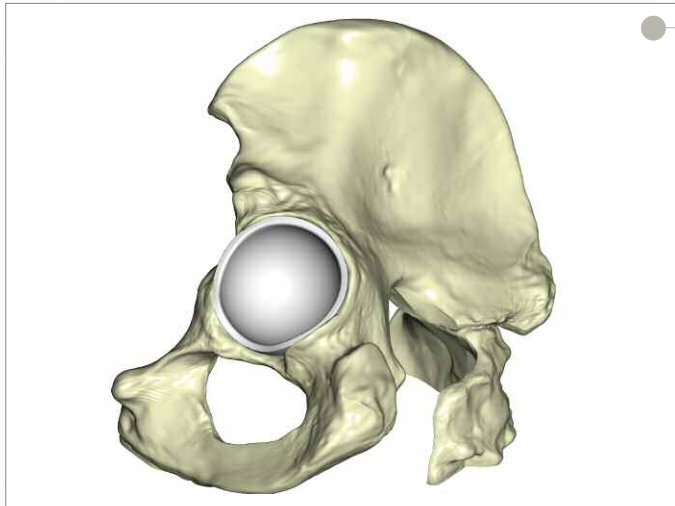

Figure 11
► **Cup Placement:** Locate the reference mark made previously on the acetabulum. Position the cup according to the preset reference mark. Positioning the cup according to the preset reference mark will ensure proper anatomic cup placement. Impact the cup into the acetabulum (Figure 11). Once the cup is securely impacted, remove the cup holder from the cup by turning the cup holder rod counter-clockwise and pulling the cup holder backwards with minimal force.